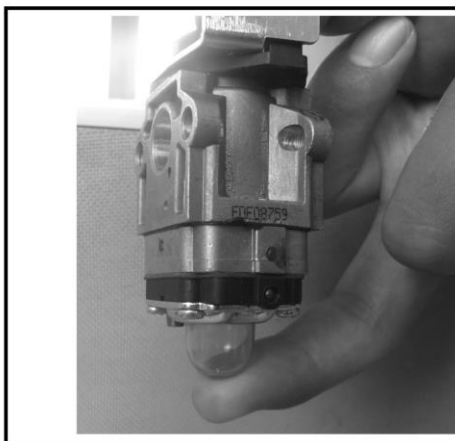

FIGURE 1
1. Push the throttle lever to the on position marked (I).
2. Prime the engine 4-5 times, or until fuel is visibly passing through the fuel lines. See Figure 1.